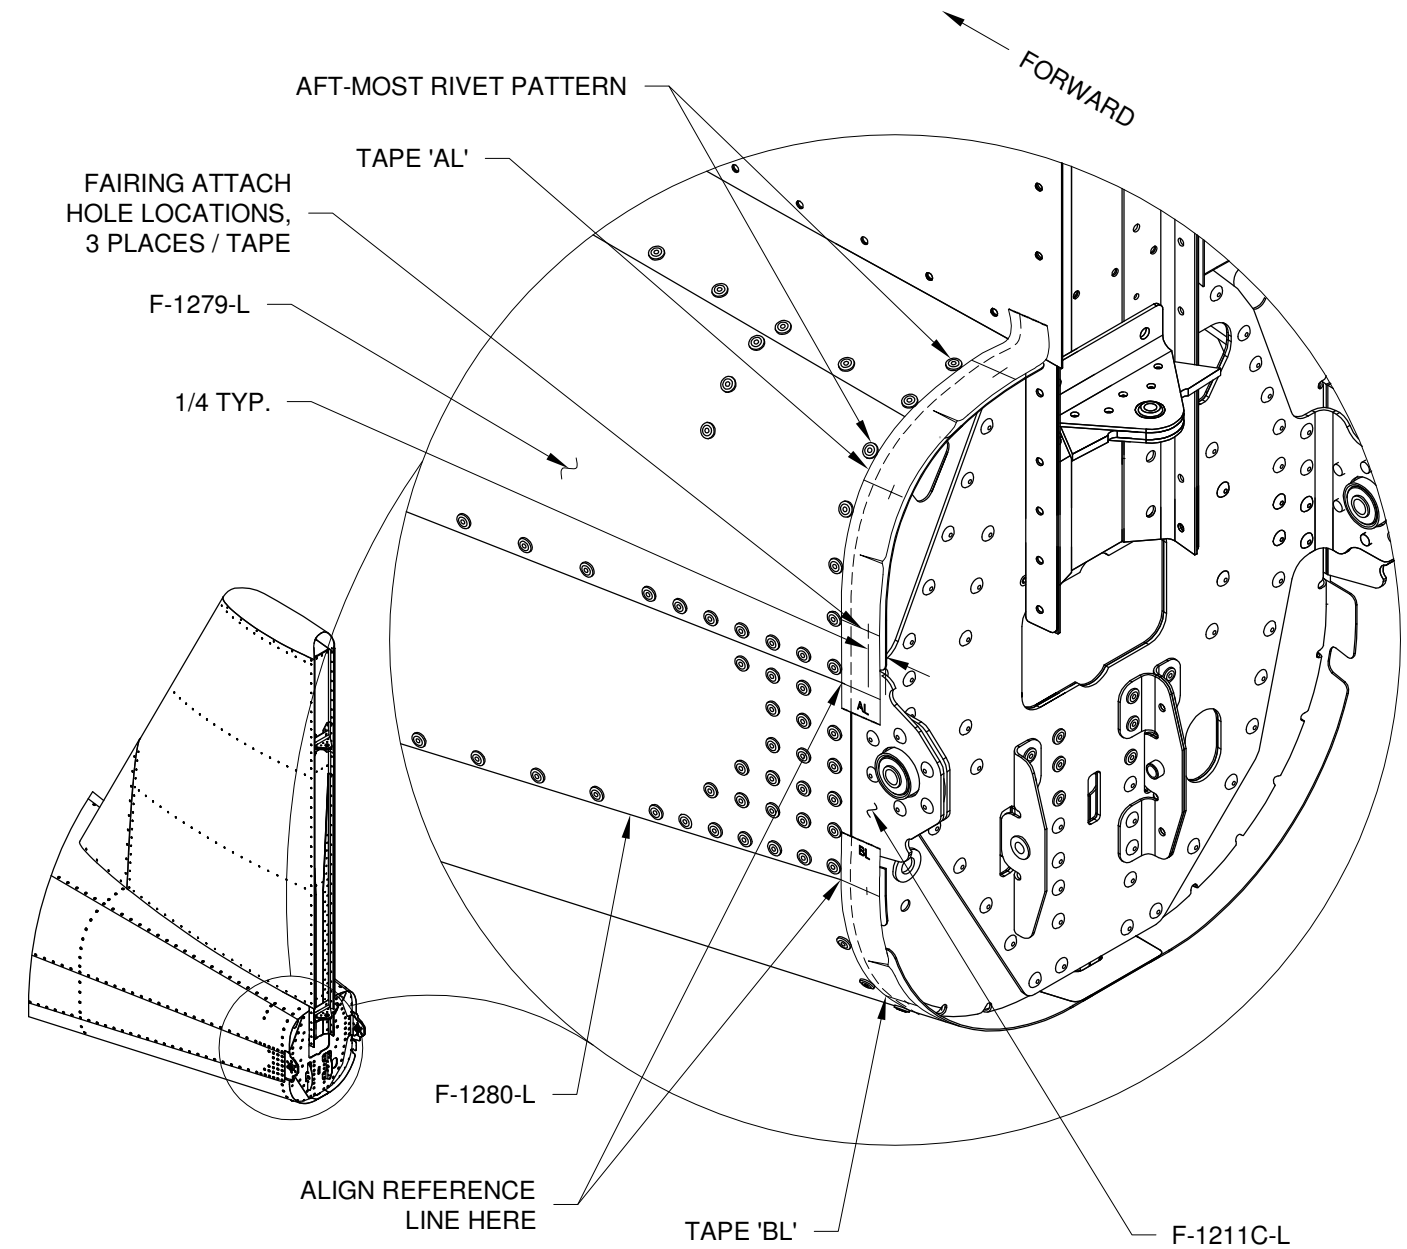

FIGURE 3:
Step 3: Place the forward end of the reference line of tape 'AL' on the lower edge of the F-1279-L Upper Corner Skin. Align the forward edge of the masking tape along the manufactured heads of the aft-most rivet pattern on the tailcone as shown in Figure 3. Gather wrinkles in the aft edge of the tape between the fairing attach hole marks.
Step 4: Place the forward end of the reference line of tape 'BL' on the lower edge of the F-1280-L Side Skin. Align the forward edge of the masking tape along the aft-most rivet pattern on the tailcone as shown in Figure 3. Gather wrinkles in the aft edge of the tape between the fairing attach hole marks.
Step 5: Measure and mark the dimension given from the aft edge of the tailcone skins, at each fairing attach hole location as shown in Figure 3.